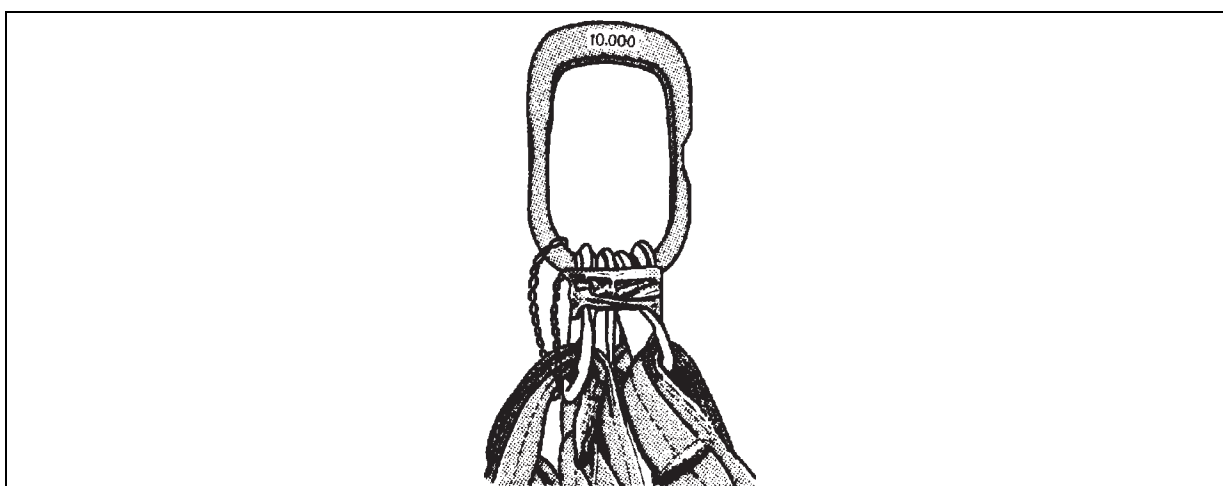

Figure 7-8. Taped Hooks
- After connecting all four hooks to the apex fitting, tape or tie the four hooks together to prevent them from coming unhooked when the apex is laid down (figure 7-8).